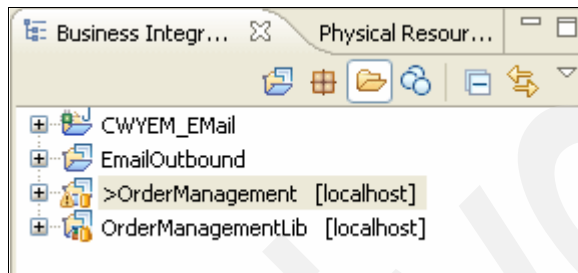

Figure 3-223 Business Integration perspective after New from Pattern
4. When the wizard completes, you have an e-mail adapter project, CWYEM\_Email, and the EmailOutbound has additional artifacts from the discovery, as shown in Figure 3-223.